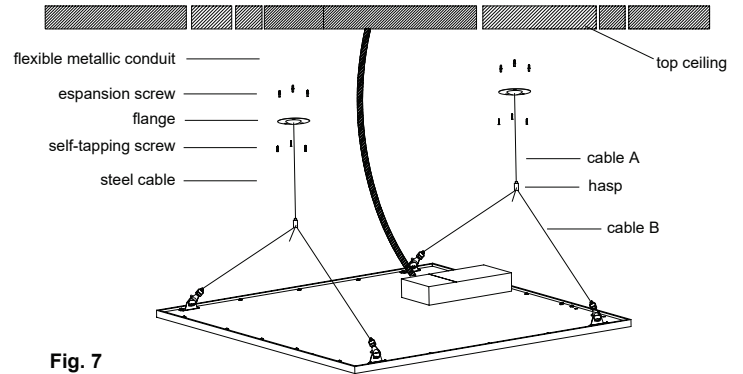

Fig. 7
2. Pull the end cap of cable A through the provided flange and make sure the end cap is positioned in the flange. Attach the flanges to the ceiling by the selftapping screws. (Fig. 7)
3. Insert the end of cable A into the hasp attachment on cable B then adjust cable A to the desired height and adjust cable B to the desired angle. (Fig. 7)
4. Hook the luminaire up to the hooks attached to the ends of cable B and make final adjustments. (Fig. 7)